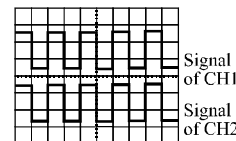

Figure 4
● Model: AT7328/AT7425/AT7340 (Figure 4)
- ### 2. Introduction of Rear Panel (figure 4)
Adjust Vertical mode to DUAL, and trace of Ch2 will appear on screen (the same with CH1). At this time, a square wave displays on CH1 (come from output waveform of calibration signal), and only one straight line displays on CH2, since no signal through this channel. Now put the calibration signal to CH2 input, which is the same with CH1, set AC-GND-DC switch to AC, adjust vertical position 11) and 19) to make both channels as fig.4. Release ALT/CHOP switch, (set in ALT). The signals of CH1 and CH2 display on screen alternatively, this setting is used for scanning the two signals of shorter sweep time. Press ALT/CHOP switch, (set in CHOP). Signals of CH1 and CH2 display on screen separately with the rate of 250kHz, this setting is used for scanning the two signals of longer sweep time. When in the operation of dual channel, (DUAL or +/-), must select the signal of CH1 or CH2 by triggering switch of signal generator, which act as trigger signal. If the signal of CH1 and CH2 synchronize, the both waveform stably display. In reverse, only the signal of trigger signal generator can stably display; if TRIG/ALT switch depressed, both the waveforms stably display.
● Model: AT7328/7425 (Figure 4)